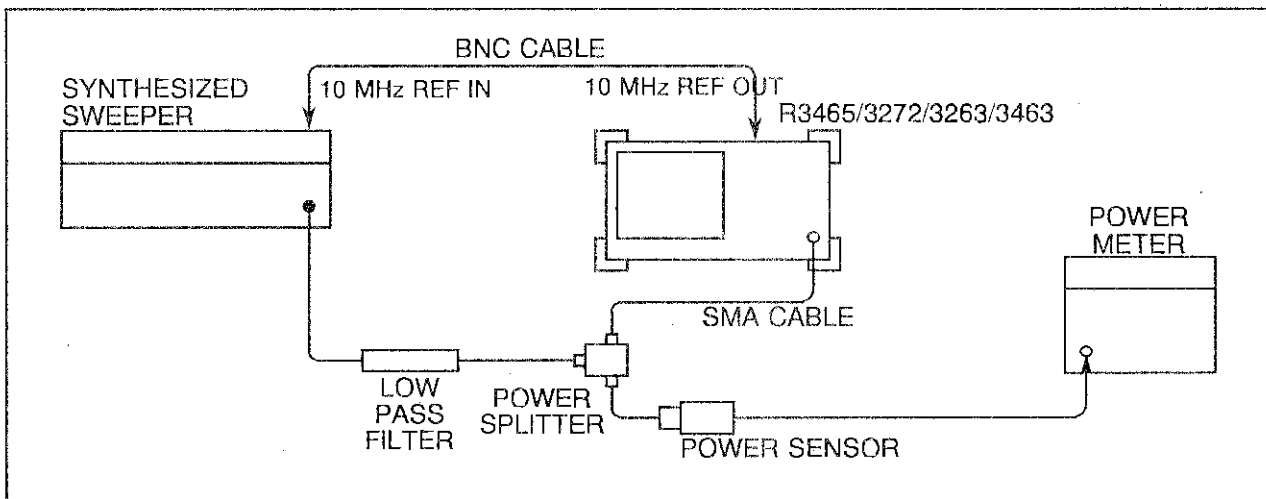

Figure 1-10 Second Harmonic Distortion Test Setup
- (1) Zero and calibrate the power meter. Rotate the CAL FACTOR switch to the power sensor's 1.4 GHz calibration factor.
- (2) Connect the equipment as shown in Figure 1-10.
- (3) Press the INSTR PRESET key on the SG1. Set the SG1 controls as follows:
(13) Connect the equipment as shown in Figure 1-10.
(14) Rotate the CAL FACTOR switch to the power sensor's 1.9 GHz calibration factor.
(15) Set the SG1 POWER LEVEL key for a 0 dBm \pm 0.1 dB reading on the power meter.
(16) On the R3465/3272, press FREQ , 1 , . , 9 and GHz keys.